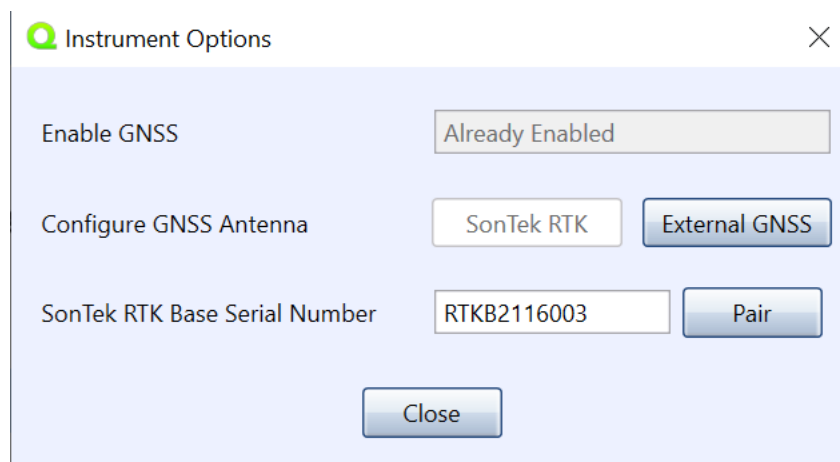

Figure 13. Instrument Options Dialog
- 2) From RSQ, go to Tools > Hardware Utilities > Instrument Options, which will display the dialog shown in Figure 13.